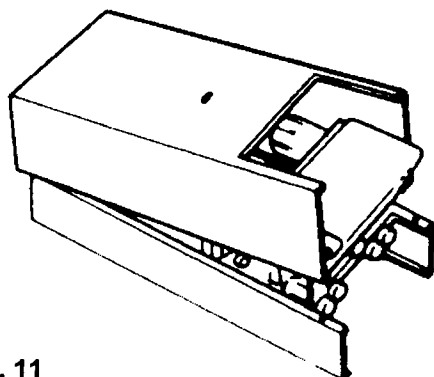

Fig. 11
5.3.2 Slightly lift the casing and slide it gently towards the top of the appliance to disengage the case from the top suspension hooks. (Fig. 11)